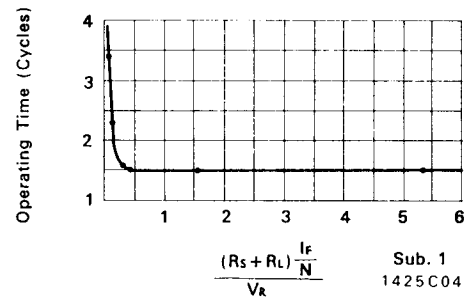

Fig. 5 KAB Relay-Typical Operating Time.
- The operate time of the voltage unit at two times pick-up is 32 ms. Figure 5 illustrates the results of staged faults. It shows the KAB relay will operate at 1.5 cycles.
operating speed of the V-unit would be faster, Figure 5 shows the operating speed of 1.5 cycles from the typical staged faults. However, an overcurrent unit is provided which may be connected in series with the varistor and will operate in 1 cycle on current flow during severe internal faults when the varistor conducts current to limit the secondary voltage. The application of the overcurrent unit has no effect on the operating speed of the voltage unit.